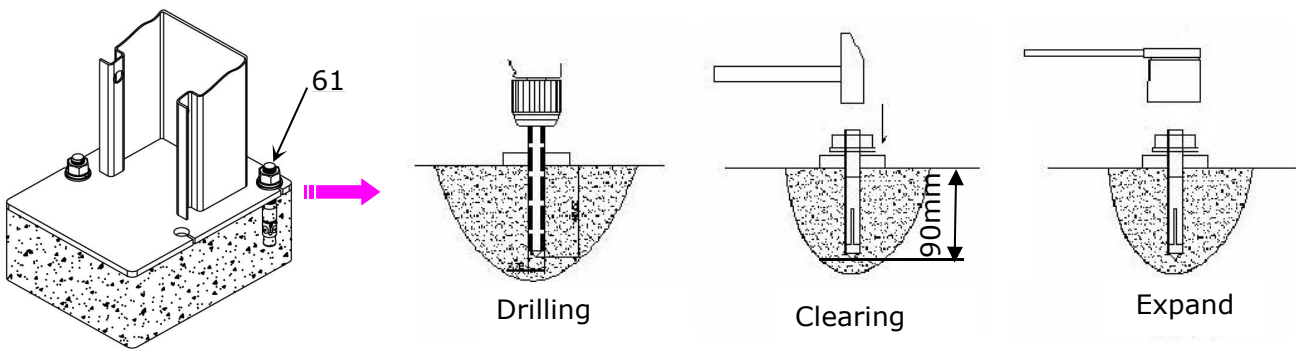

Fig. 36
2. Check the plumbness of columns with leveling instrument and adjusting with the shims. Using the prescribed rotary hammer drill, and drill all the anchor holes and install the anchor bolts. Do not tighten the anchor bolts (See Fig. 36).